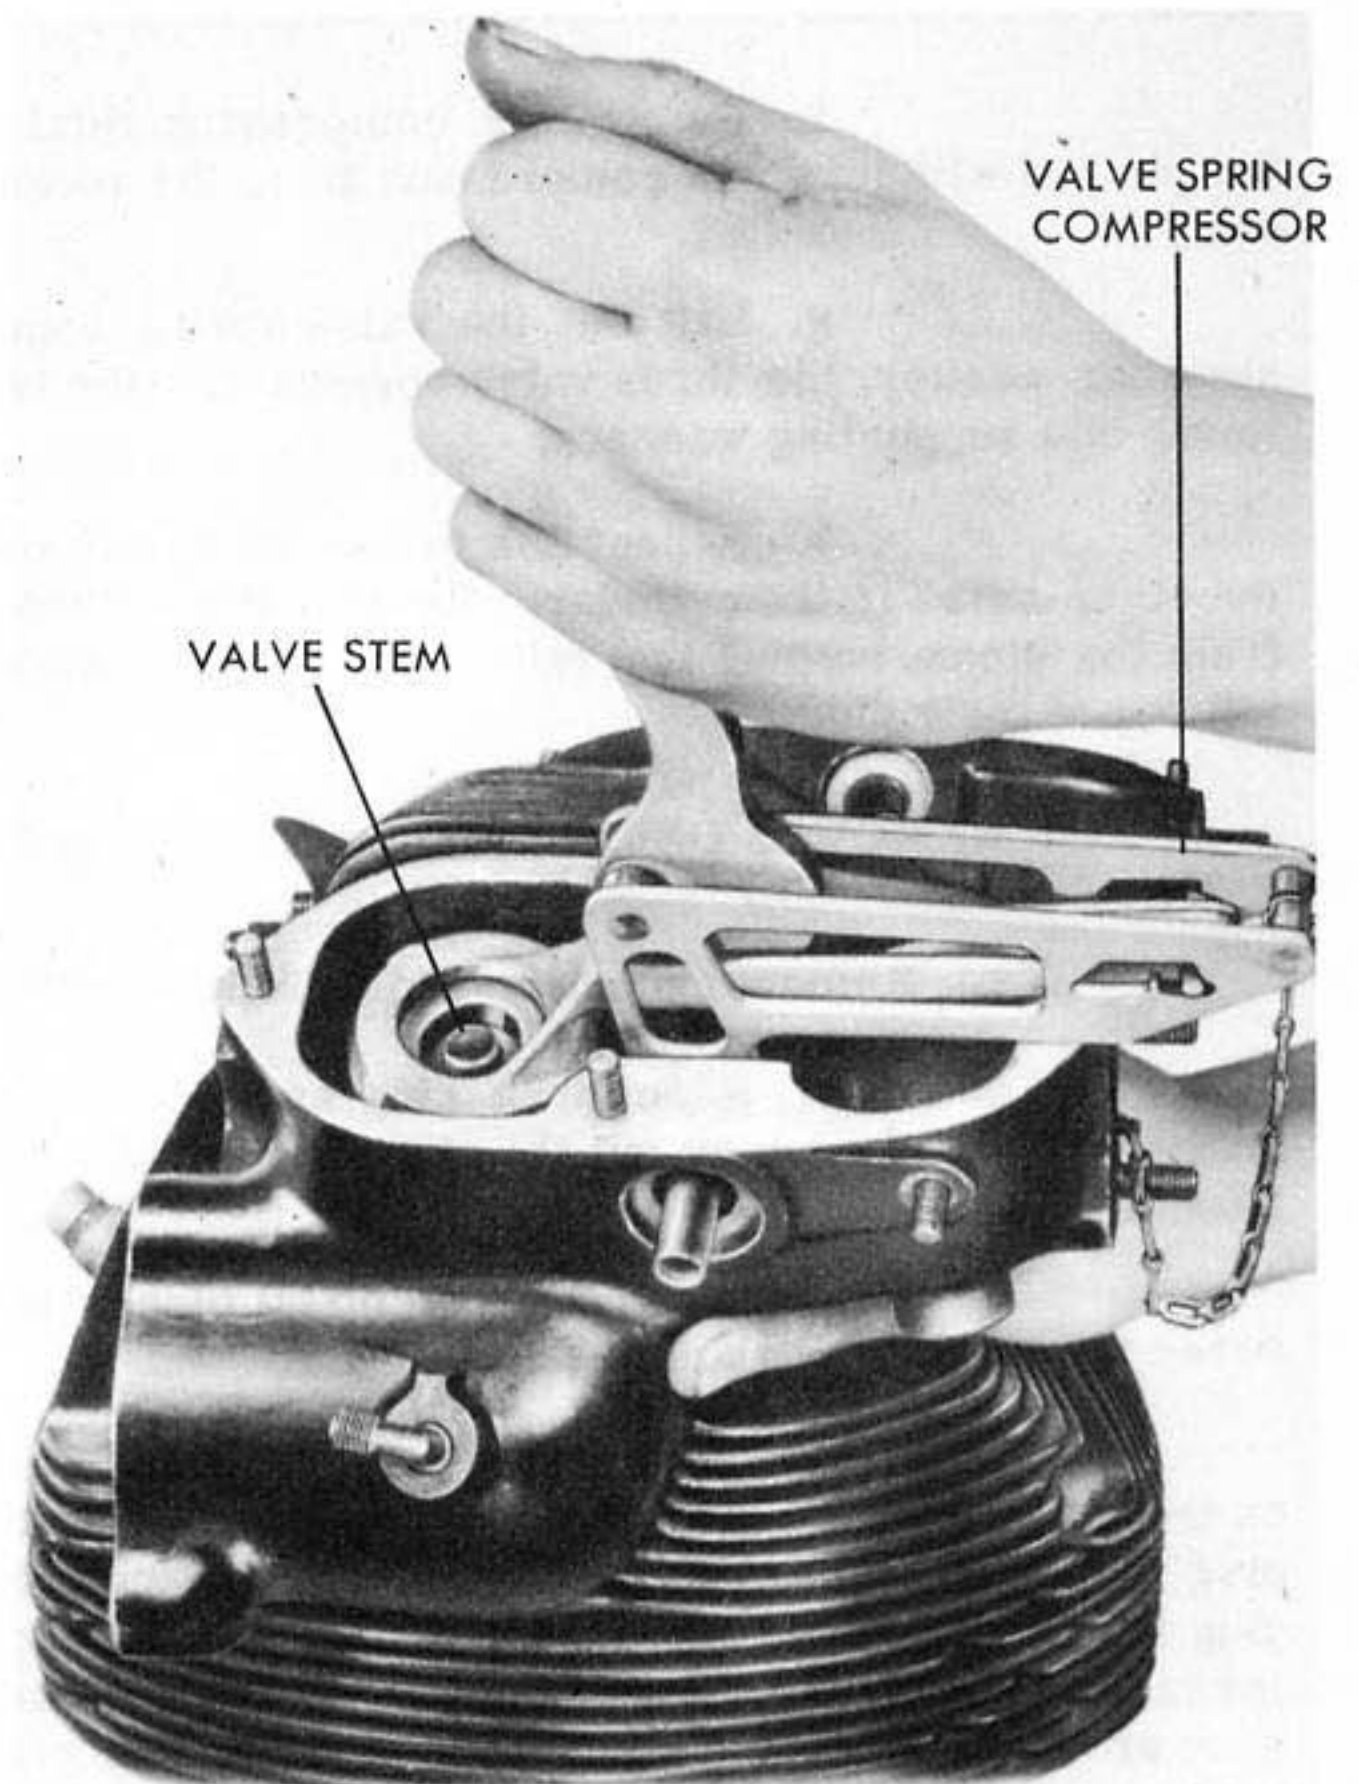

Figure 100 - COMPRESSING VALVE SPRING FOR REMOVAL
12. REMOVAL OF VALVE. (See figures 100 and 101.)